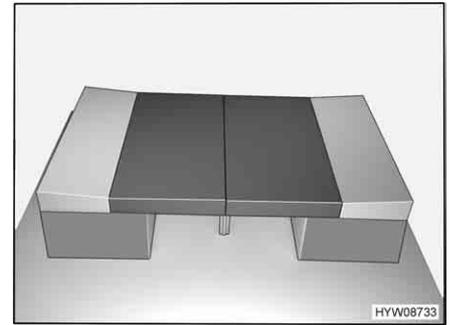

Fig. 95 After conversion
- Insert the back cushions between the seat cushions and the wall (see Fig. 95).